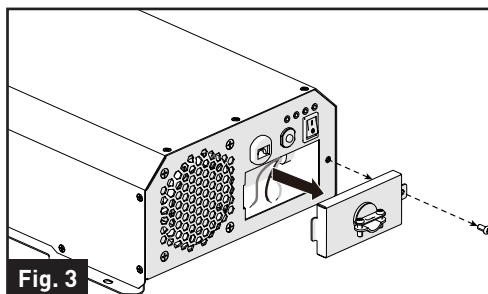

Fig. 3
1. Remove the AC wiring compartment cover to gain access to the AC output hard-wire (pigtail leads). (Fig. 3)